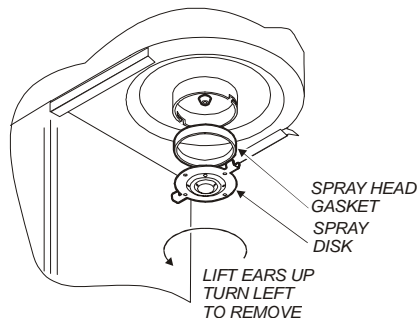

Fig. 8 Cleaning
4. Remove the spray disk from the brew head (See figure 8): Press up on the spray disk ears, then turn the disk to the left to unlatch. Remove the gasket from inside the brew head.